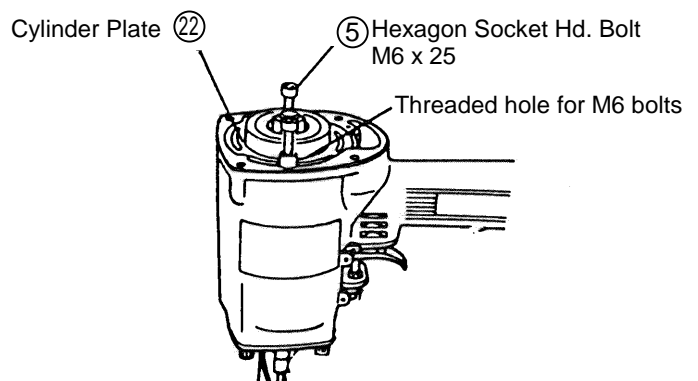

Fig. 9
- Remove the four M6 x 25 Hexagon Socket Hd. Bolts (5), and take off the Exhaust Cover (6). The Piston Ass'y (14) can then be taken out.
- Next, as illustrated in Fig. 9, screw two of the previously removed M6 x 25 Hexagon Socket Hd. Bolts (5) into the provided holes on the Cylinder Plate (22).